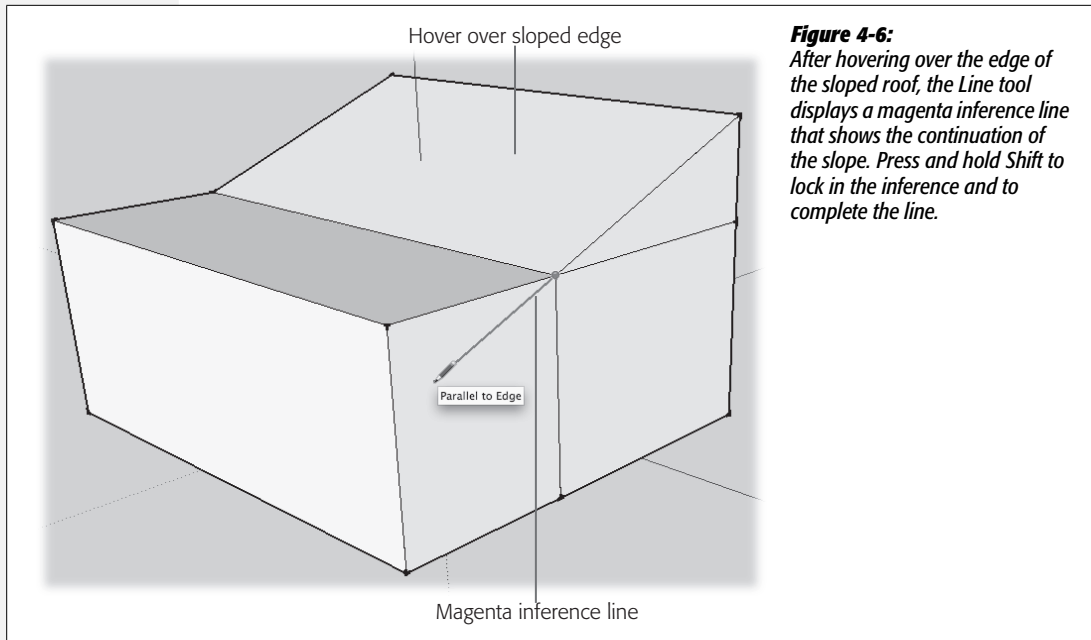

Figure 4-6:
3. Move your cursor to extend that line across the vertical face of the second box, as shown in Figure 4-6.